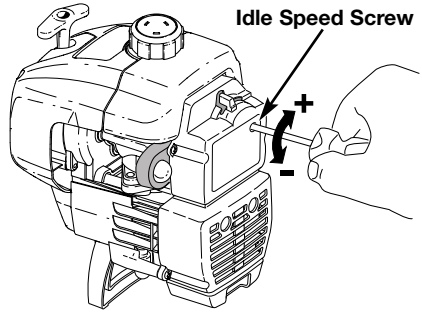

Fig. 41
The idle speed of the engine is adjustable through the Air filter/muffler cover (Fig 41).
2. Release the throttle trigger and let the engine idle. If the engine stops, insert a small phillips or flat blade screwdriver into the hole in the air filter/muffler cover (Fig. 41). Turn the idle speed screw in, clockwise, 1/8 of a turn at a time (as needed) until the engine idles smoothly.